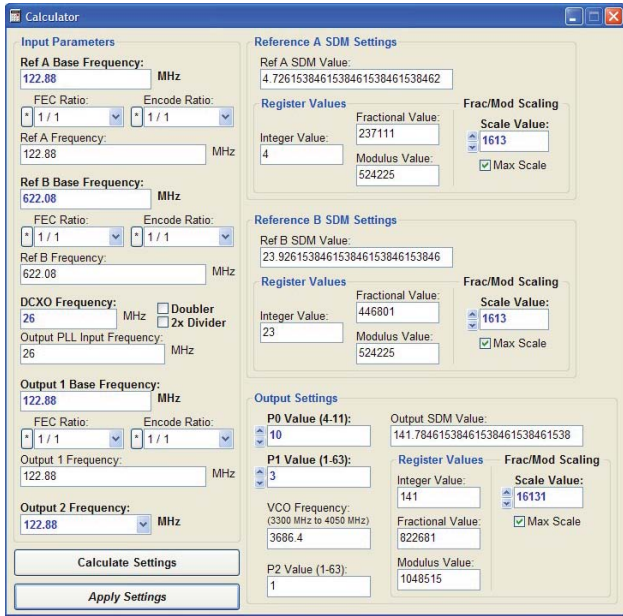

Figure 21. Calculator Window
7. The **Calculator** window, shown in Figure 21, appears.